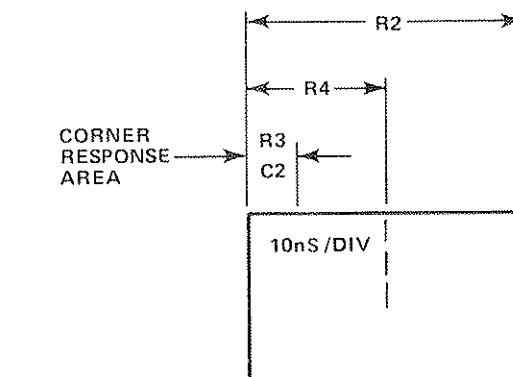
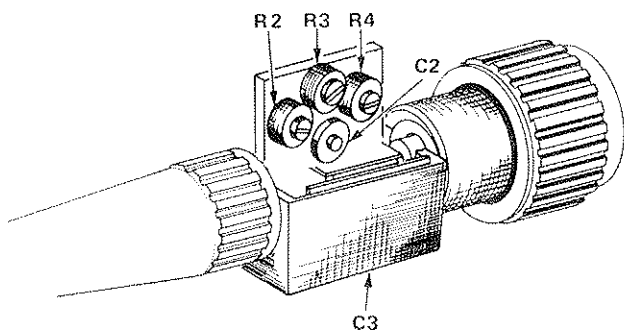

Fig. 5. Adjustments relative to waveform section.
Fig. 6. High-frequency adjustments, 1 meter cable length.
- a. Adjust R2 and R4 for best overall flat response. See Fig. 5 for details of adjustment area on waveform relative to component adjustment. See Fig. 6 and 7 for adjustment positions relative to probe and length of cable.
- b. Adjust R3 and C2 for best corner response (without ringing). See Fig. 5, 6, and 7.